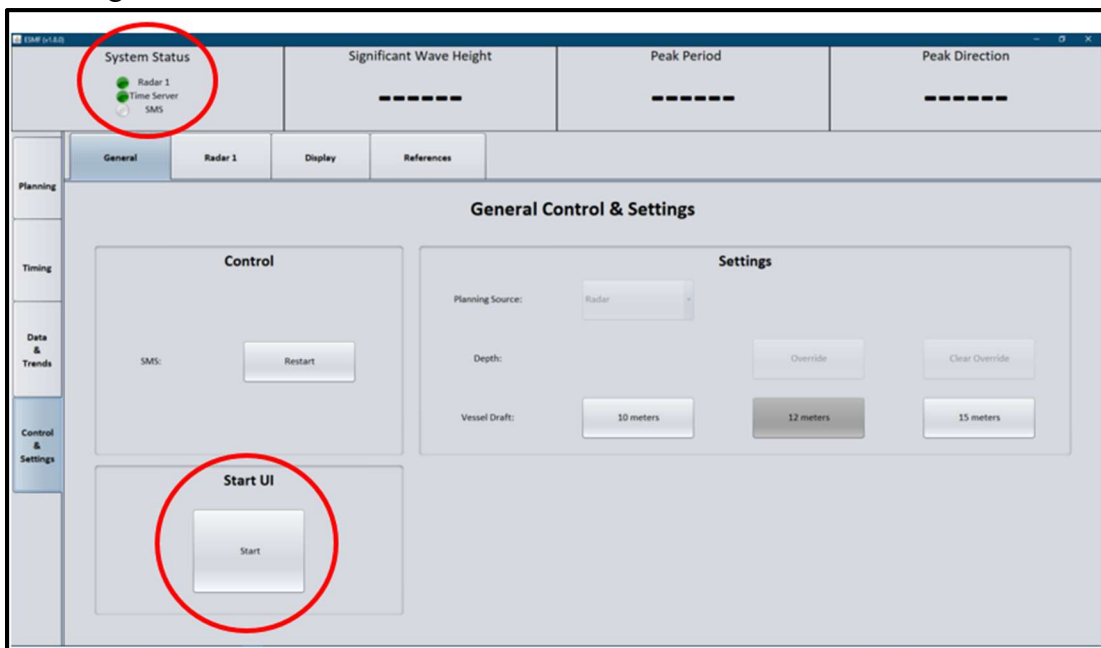

Figure 3: Location of the *System Status* and ‘Start’ Button on the **General Tab**
4. (Refer to Figure 3) Find the *System Status* on the upper-left corner of the display. If the ‘SMS’ indicator is grey and all other indicators are green, then the system is ready to start receiving data. Press the ‘Start’ button.